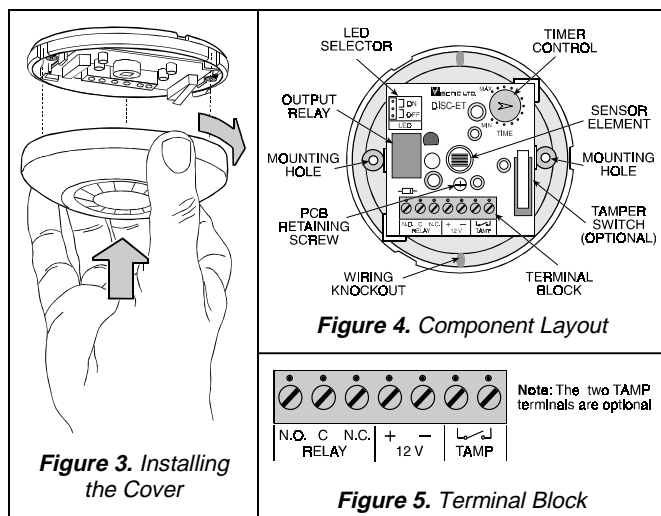
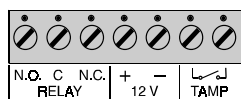

Figure 4. Component Layout
Figure 5. Terminal Block
Punch out the wiring knockout (see Fig. 4) and route the wires into the detector. Connect wires to the terminal block in the following order (see Fig. 5).
- C.** Set the LED selector to ON by installing the jumper supplied with the unit on the upper and middle pins of the LED SELECTOR (see Fig. 4).